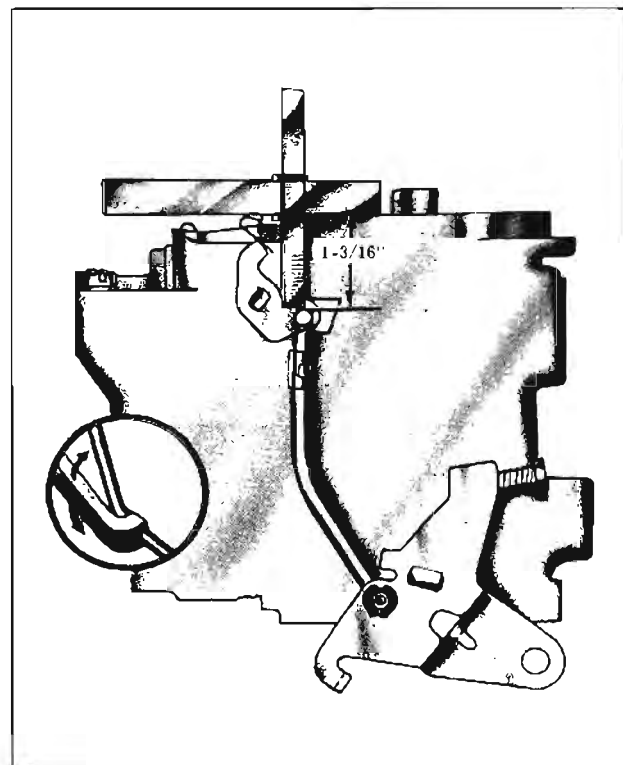

Fig. 9-160 Pump Rod Adjustment
7. Rotate thermostatic cover counterclockwise until the choke valve begins to close and continue in rotation until the proper index marking is aligned as specified. (Fig. 9-160)